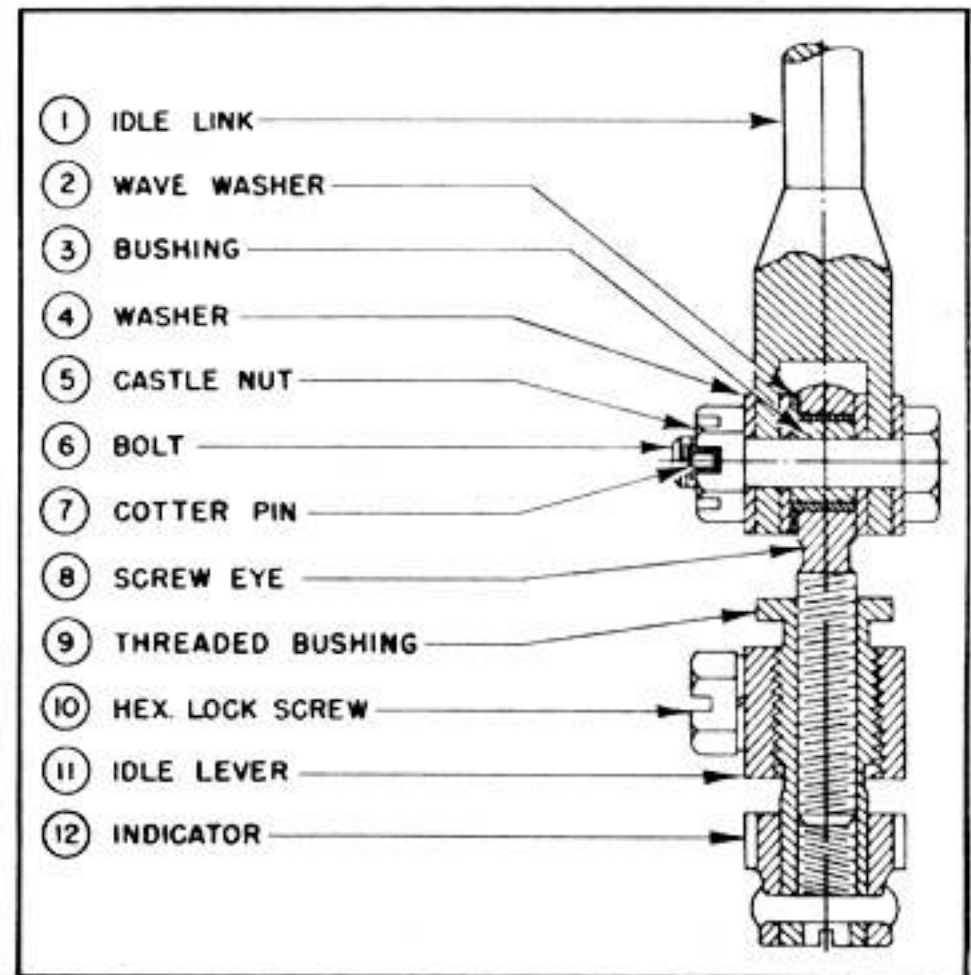

Figure 243—Section Through Idle Adjustment Mechanism
g. If there is insufficient travel of the idle mixture adjustment to obtain the correct idle mixture (*figure 243*), disconnect idle link (1) from screw eye (8) by removing link bolt (6). Screw the screw eye (8) into threaded bushing (9) if leaner mixtures are required, or out of the bushing if richer mixtures are desired. One revolution of the screw eye is equivalent to approximately 13 notches of mixture adjustment indicator (12). Reconnect the idle link (1) with extreme care to be certain that the various parts are in their correct positions. The four plain washers (4) must be in the positions shown. Position the spring wave washer (2) so that it fits over the outside diameter of bushing (3) and is next to screw eye (8). Tighten the castle nut (5) enough to allow the yoke of idle link (1) and plain washers (4) to clamp bushing (3) tightly in place so it cannot move on bolt (6). If castle nut (5) is not sufficiently tight, the clearance between the inside diameter of bushing (3) and the outside diameter of bolt (6) will allow enough play in the linkage to cause inconsistent engine idling.
(1) DESCRIPTION.